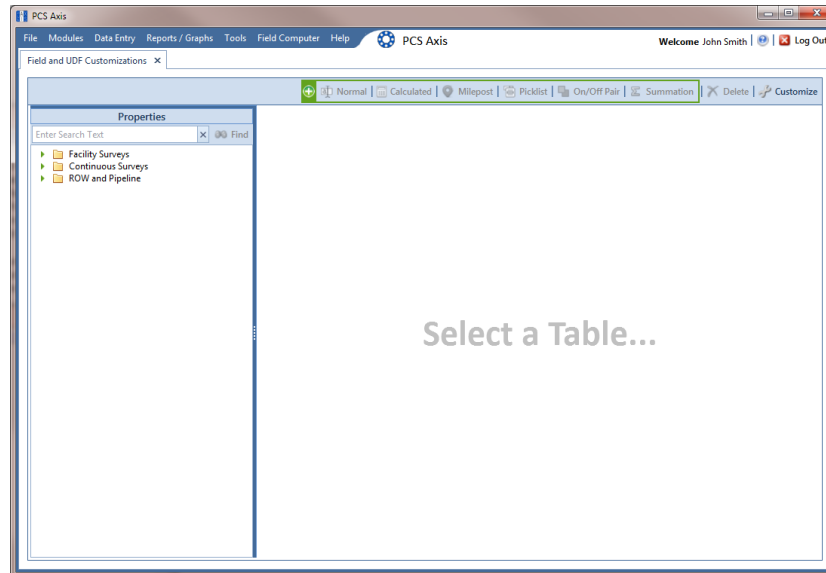

Figure 3-29. Field and UDF Customizations
- 1 Click **Tools > Field and UDF Customizations** to open the *Field and UDF Customizations* window (Figure 3-29).
- 1 Click **Tools > Field and UDF Customizations** to open the *Field and UDF Customizations* window (Figure 3-29, page 71).
- 1 If the *Field and UDF Customizations* window is not open, click **Tools > Field and UDF Customizations** (Figure 3-29, page 71).